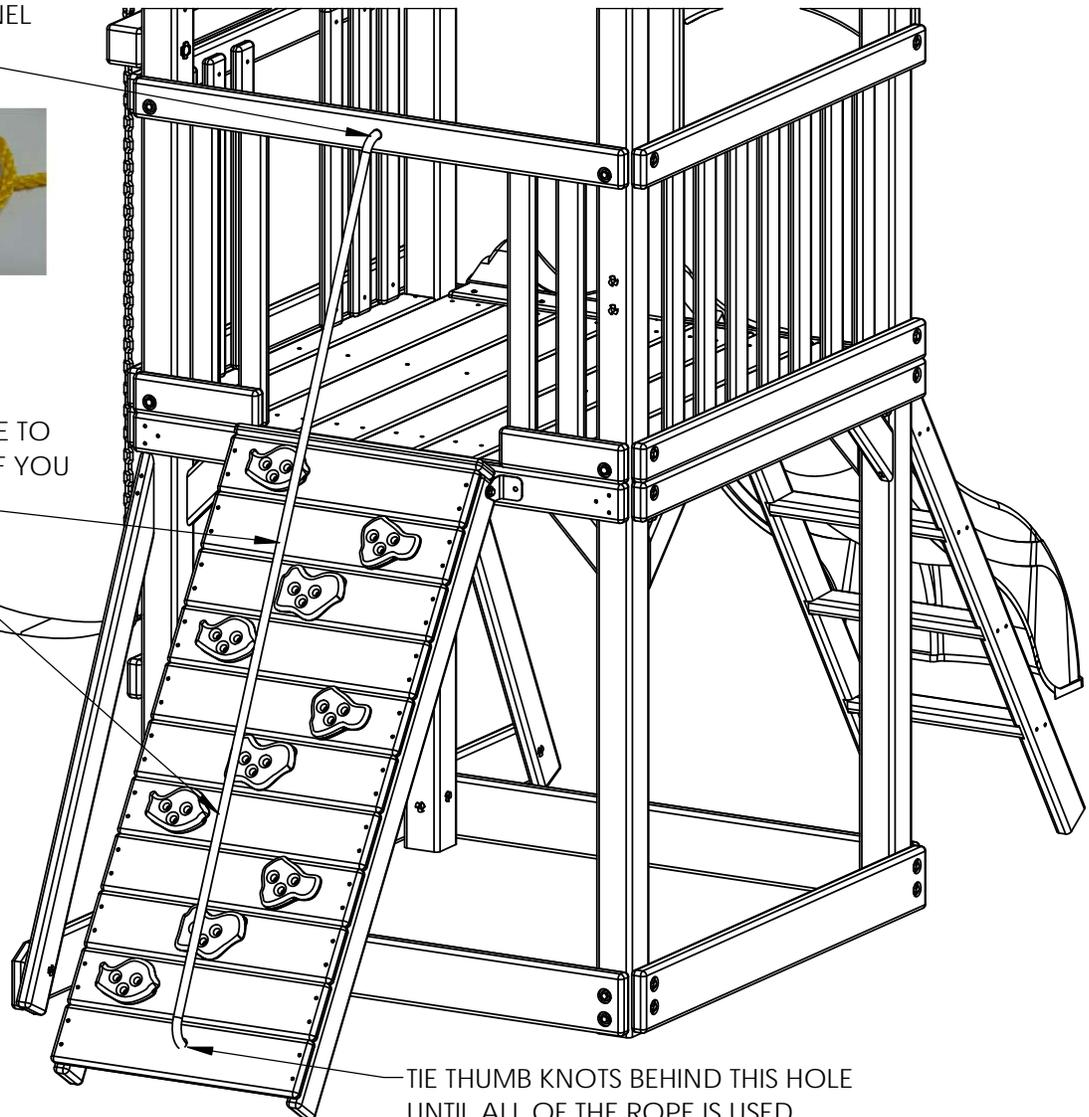

FIGURE 8 KNOT
- 2: TIE A SECURE FIGURE 8 KNOT ON THE INSIDE OF THE ROCK WALL SIDE TOP PANEL BOARD.